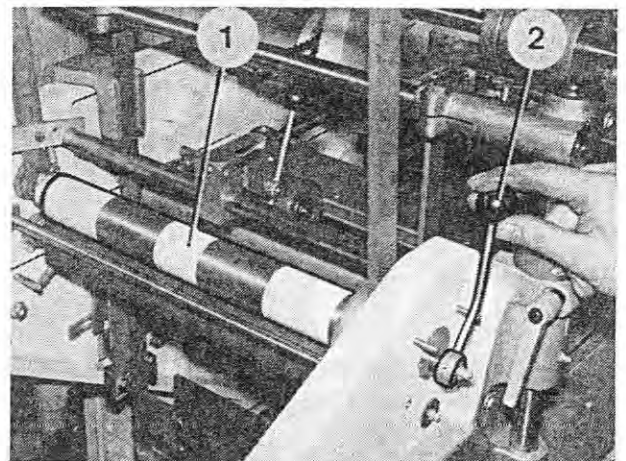

Fig. 92
5. Raise the upper predisensing roller (Figure 92/1) by reversing the lever (Figure 92/2).